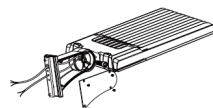

Fig. 5
1. Remove the bracket mounting screws on the fixture, open the access cover of the bracket and run the wires through the bracket (Fig. 5).